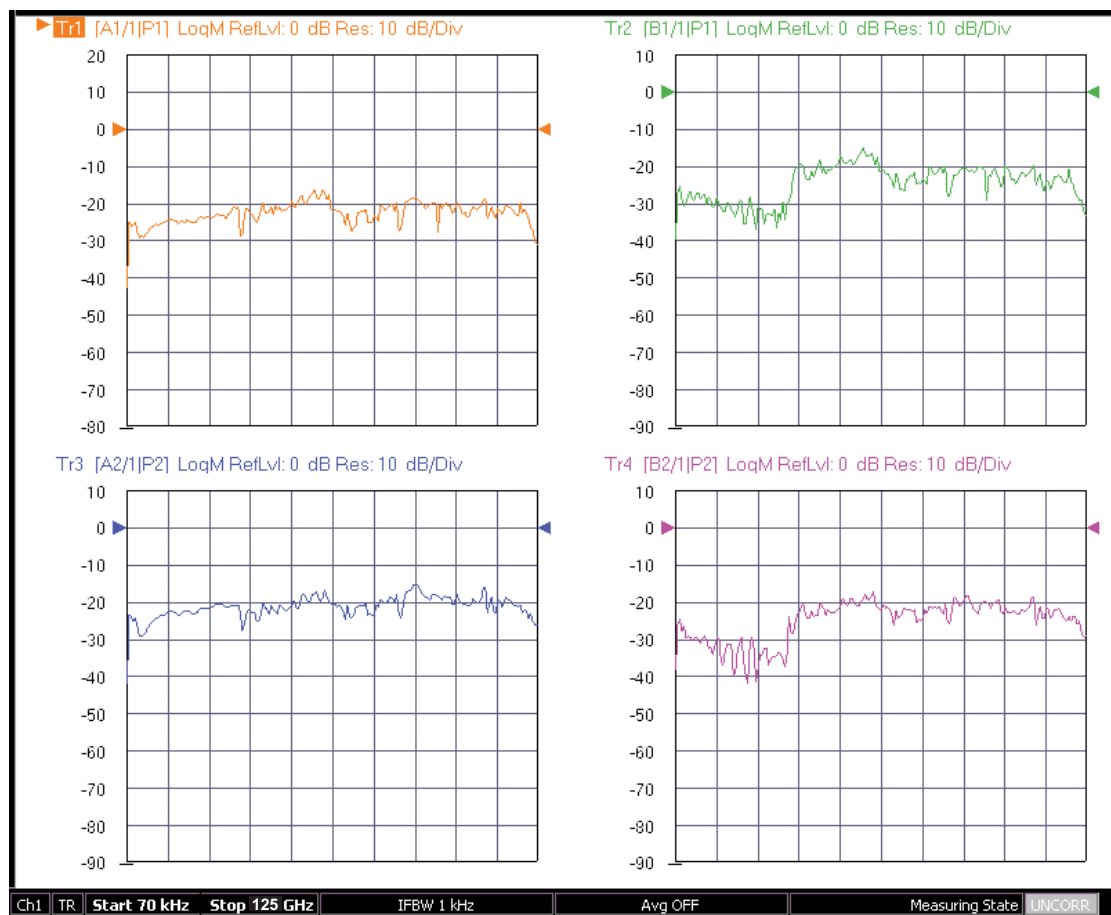

Figure 3-17. Typical VNA Four-Trace Display of Non-Ratioed Parameters for Initial Checkout
21. Connect **shorts** to both W1 connectors on the 3743A/AX Modules, and ensure the resultant display looks similar to Figure 3-17 below.